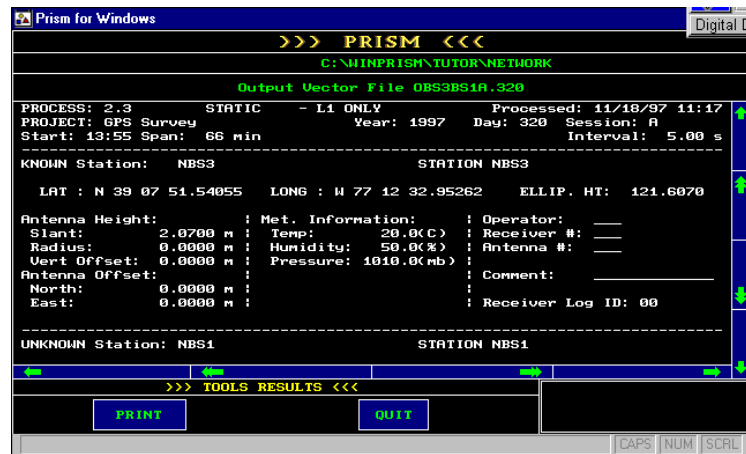

Figure 8.19: Typical File Display
3. Select DISPLAY; observe, typically, a display as shown in Figure 8.19.